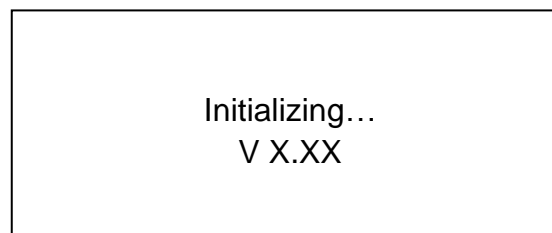

Figure 7-1 Initialization interface
■ The LCD screen displays a welcome interface and shows the accumulative total running time, in the meantime, this centrifuge starts a self-checking process for preparation. (see Figure 7-1).